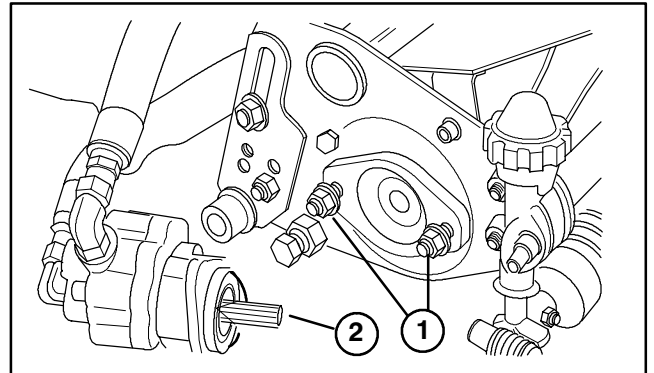

Figure 5
3. Assemble the mount nuts for the reel drive motor to each cutting unit. Leave approximately 1/2 in. of threads exposed on each mount stud (Fig. 5).
4. Remove the protective covers from the cutting units and the reel drive motor shafts. Coat the spline shaft of the motor with clean grease and install the motor by rotating the motor clockwise so the motor flanges clear the studs. Rotate the motor counterclockwise until the flanges are encircling the studs and tighten the mounting nuts (Fig. 5).